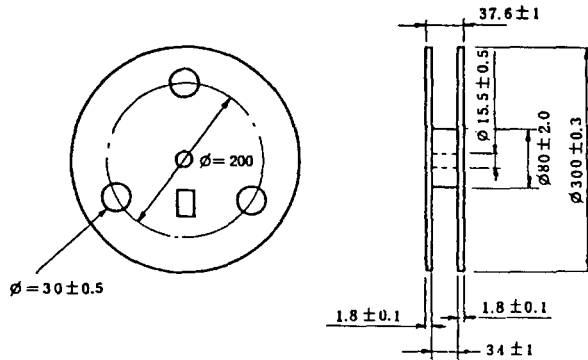

Fig. 6-3 Reel for taping
(2) Winding reel shape and dimensions (Fig. 6-3)